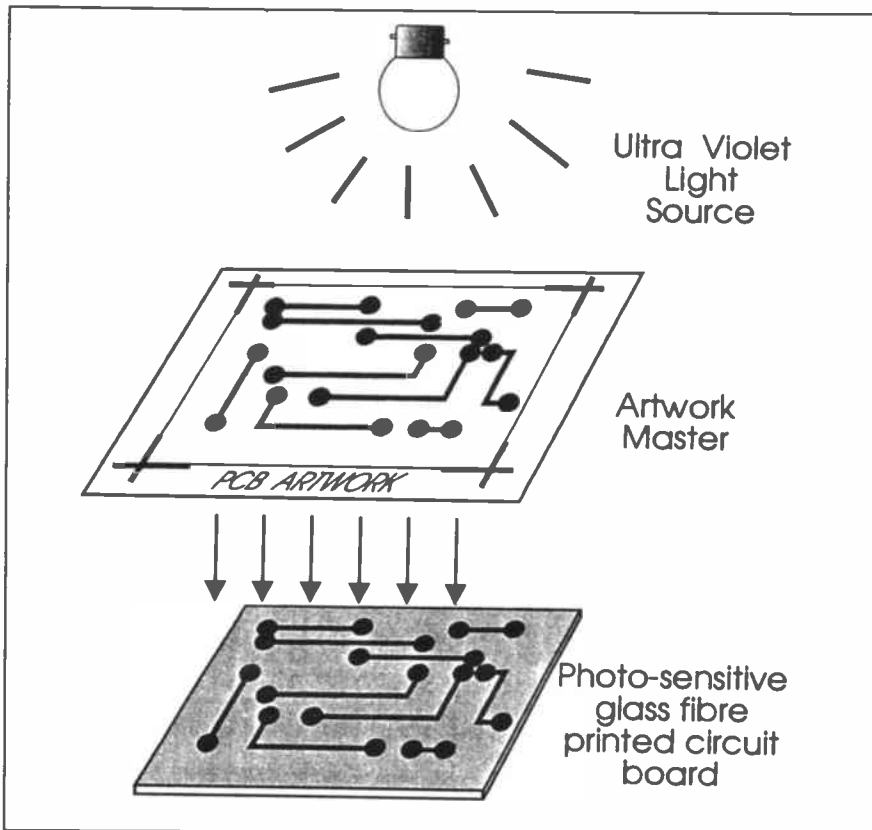

Fig. 1. Basic UV method of p.c.b. fabrication: 1 Expose to UV light through artwork. 2 Develop. 3 Etch.
To relieve this tedium you can use the ultraviolet (UV) technique, though it's more expensive and a little more complex. For the benefit of less experienced readers, Fig. 1 is a basic illustration showing how the UV system works.